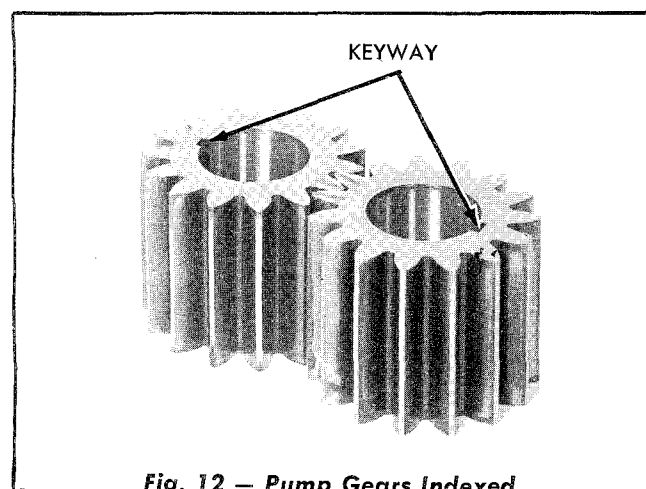

Fig. 12 — Pump Gears Indexed
6. Index the drive and driven gears with chalk as shown in Fig. 12. Remove the drive and driven gear shaft assemblies.
6. Install the drive and driven gear shaft assemblies. If the old parts are used, align the marked teeth Fig. 12. If new gear and shaft assemblies are used, keep the keyways 180 degrees apart as shown in Fig. 12. Lubricate the gear faces with clean oil.